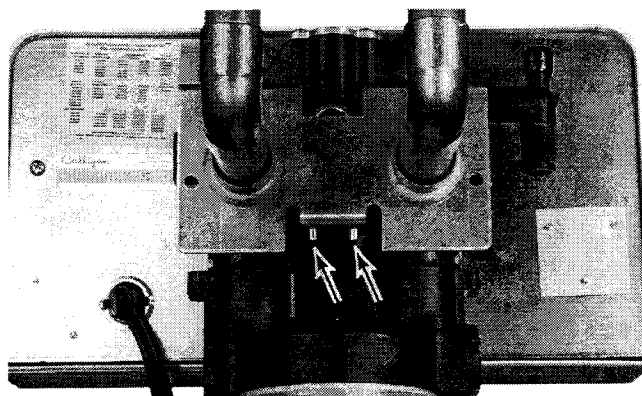

Fig. 17
- Push the U-clip down, making certain that it fully engages the two holes in the lower tab of the mounting bracket (Fig. 17), insert the two mounting bracket screws, and tighten the screws into the valve body.